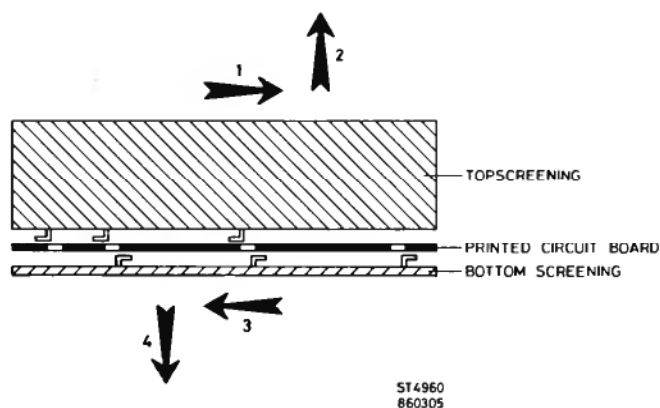

Figure 4.2
- Push the screening in the direction of the front (figure 4.2 arrow 1)
- Lift up the screening (figure 4.2 arrow 2)
- Push screening in the direction of the rear (figure 4.2 arrow 3)
- Lift up screening (figure 4.2 arrow 4)